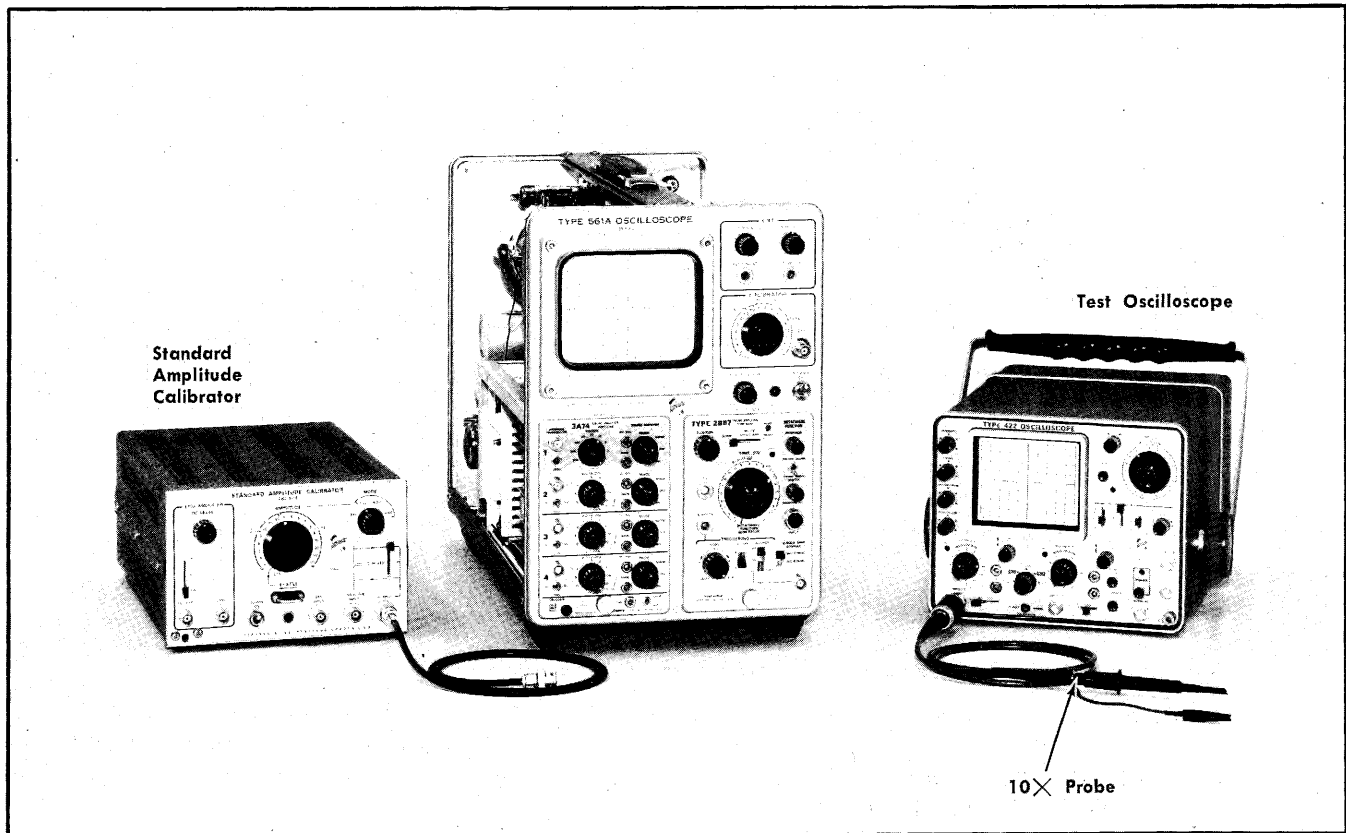
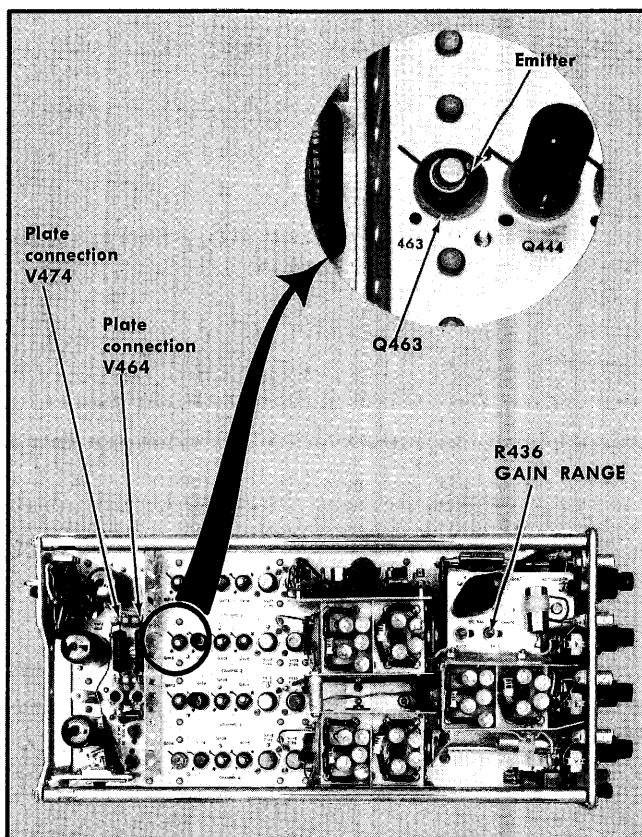
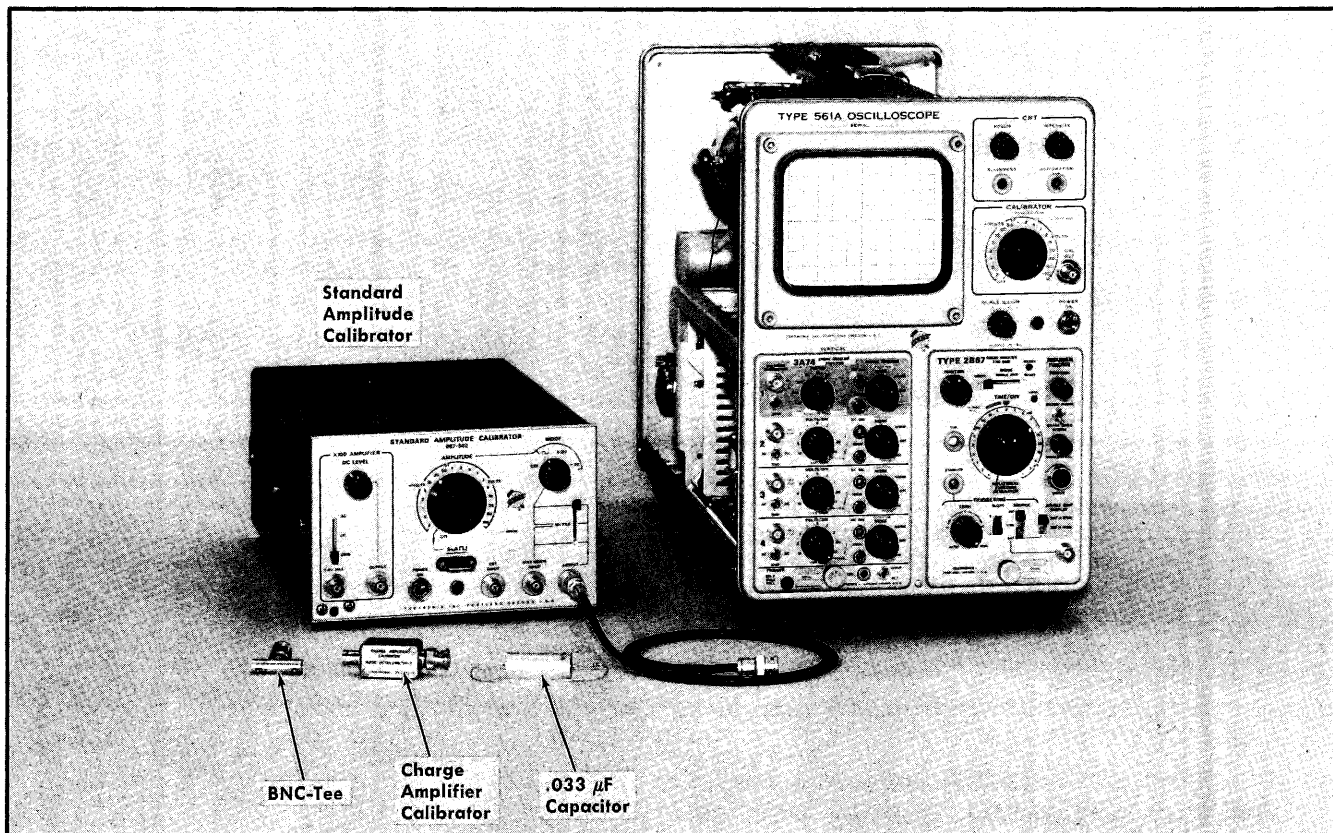

Fig. 5-7. Equipment arrangement for step 7.
Fig. 5-8. Test point locations for step 7; 3A74 - left side.
Fig. 5-9. Equipment arrangement for steps 8 through 11.
a. The preliminary control setup applies. The equipment arrangement appears in Fig. 5-7.
c. Connect a coaxial cable (item 16) from the right OUTPUT jack of the Standard Amplitude Calibrator (item 7) to the Channel 2 input connector.
m. Connect the Test Oscilloscope 10× probe (item 14) to the emitter of Q463 (Fig. 5-8) and adjust the Channel 2 VAR GAIN (front panel) as necessary to obtain a 4 division (2 V) peak-to-peak signal on the Test Oscilloscope.
n. Set the Test Oscilloscope VOLTS/DIV to 1 V. Then move the Test Oscilloscope probe from the emitter of Q463 to the plate of V464 (Fig. 5-8).
q. Move the Test Oscilloscope probe from the plate of V464 to the plate of V474 (Fig. 5-8).
b. The preliminary control setup applies. The equipment arrangement appears in Fig. 5-9.
d. Connect a BNC Tee (item 22) to the Channel 1 Input connector. (The Tee will be used in a later step.) Then connect the Charge Amplifier Calibrator (item 17) to the BNC Tee.
i. ADJUST—GAIN RANGE - R436 (Fig. 5-8), to obtain 8 divisions display amplitude between the bright flat section of the upper and lower traces.
b. Connect a BNC Tee (item 22) to the Channel 1 Input connector. Then connect the Charge Amplifier Calibrator (item 17) to the BNC Tee.
g. Connect one lead of a .033 μ F capacitor (item 26) directly to the female contact at the third connector on the BNC Tee. One-half inch or less lead length should be exposed between the capacitor and the connector.